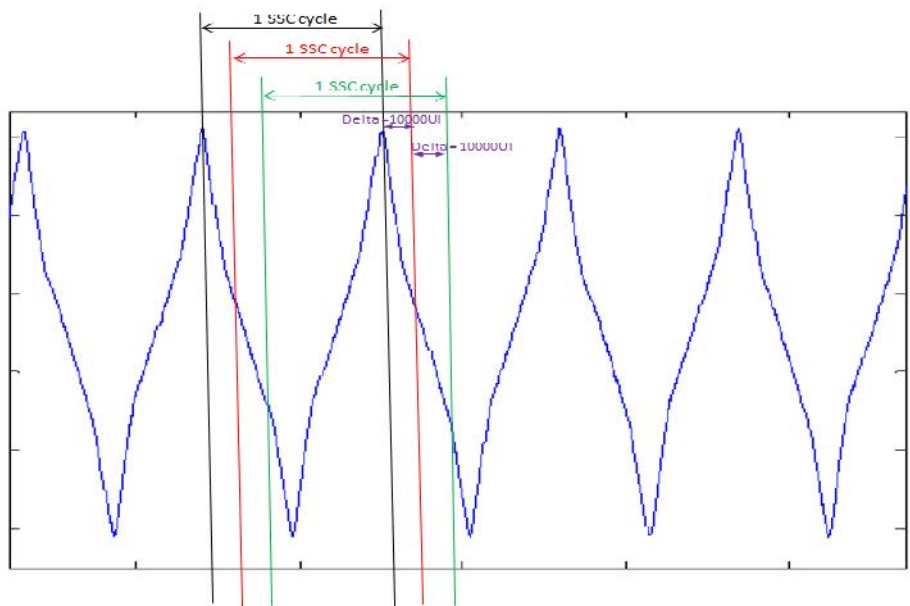

Figure 55 Measurement of UI\_MEAN over at least 10 SSC Cycles
- 4 Measure UI\_MEAN over different windows that uniformly cover the Oscilloscope capture for at least 300ms (more than 10 SSC Cycles) with 10000 UI window jumps. See Figure 55.